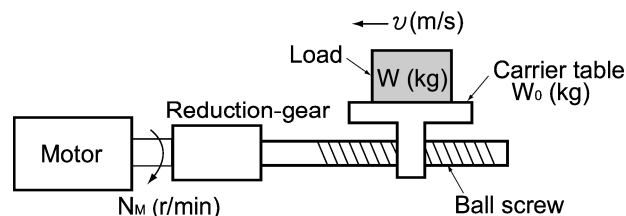

Figure 3.7 Moving a Load Horizontally
A simplified mechanical configuration is assumed as shown in Figure 3.7. If the mass of the carrier table is W_0 (kg), the load is W (kg), and the friction coefficient of the ball screw is μ , then the friction force F (N) is expressed as follows, which is equal to a required force for driving the load:
Assume a carrier table driven by a motor as shown in Figure 3.7. If the table speed is v (m/s) when the motor speed is N_M (r/min), then an equivalent distance from the shaft is equal to $60 \cdot v / (2\pi \cdot N_M)$ (m). The moment of inertia of the table and load to the shaft is calculated as follows: